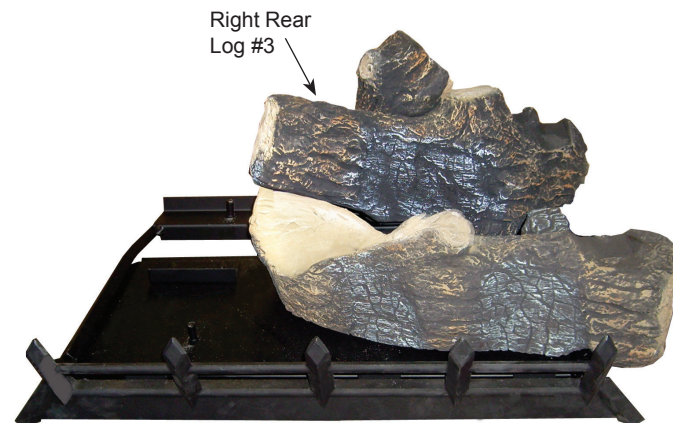

Figure 30. Place Right Rear Log #3
3. Place right rear log (#3) on pin located on rear support bracket and rest left side of log on front right log. Figure 30.